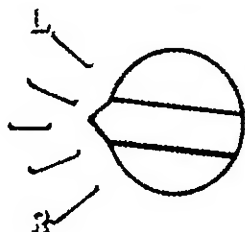

FIGURE 31. INITIAL START ADJUSTMENT
1. Set main power mixture to position shown in Figure 31
2. Run engine at maximum throttle and normal load for ten minutes, or set main power mixture near mark between L and R as shown in Figure 31.
1. Run engine at open throttle for normal maximum rpm for ten minutes or set main power mixture at mark between L and R as shown in Figure 31.